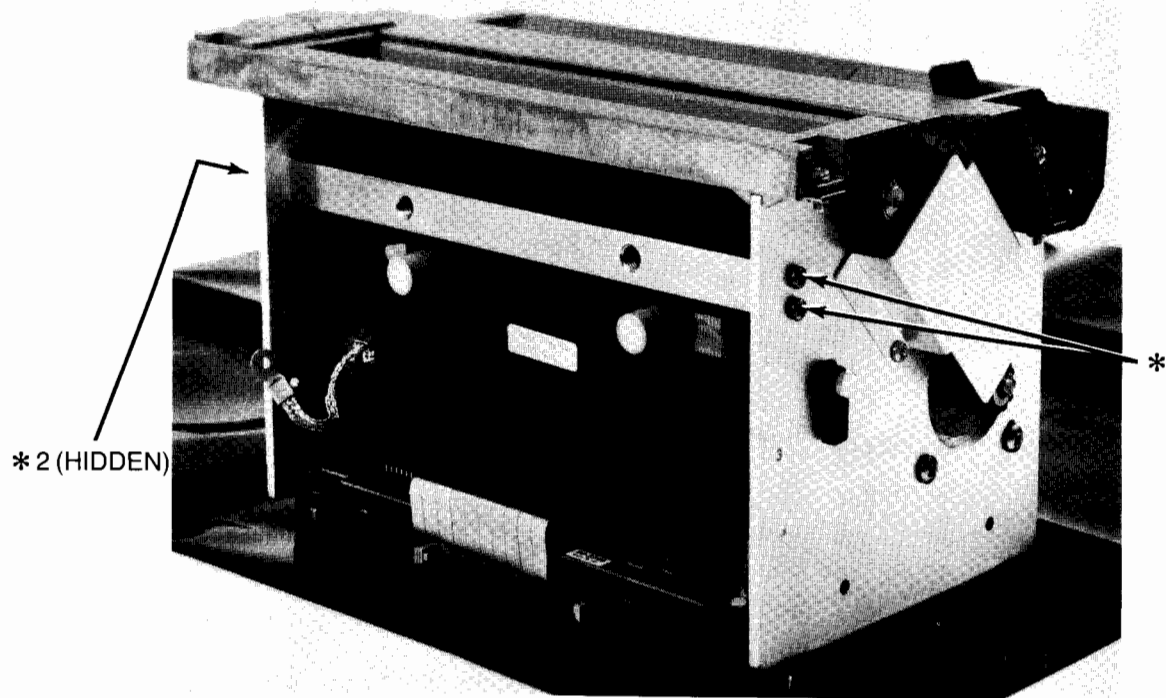
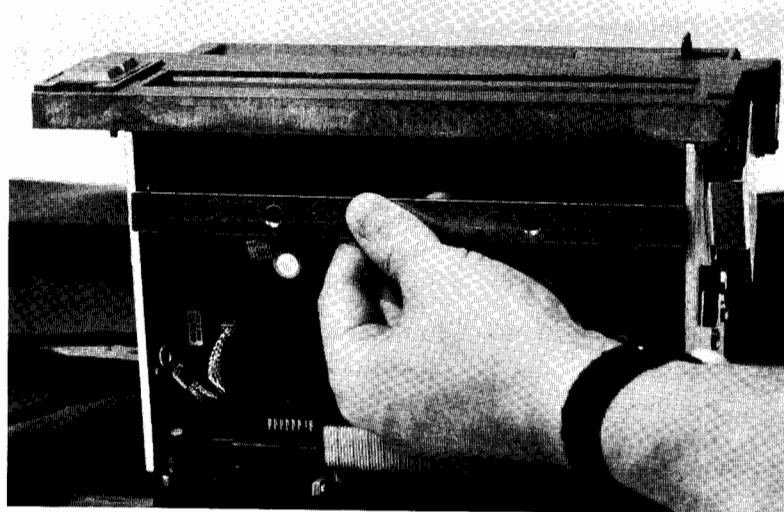

Figure 4-38. Releasing Head Load Bar
Figure 4-39. Removing Head Load Bar
6. Remove four #2 Pozidriv screws (two on each side of printer) that attach head load bar to printer (Figure 4-38) and remove head load bar (Figure 4-39).